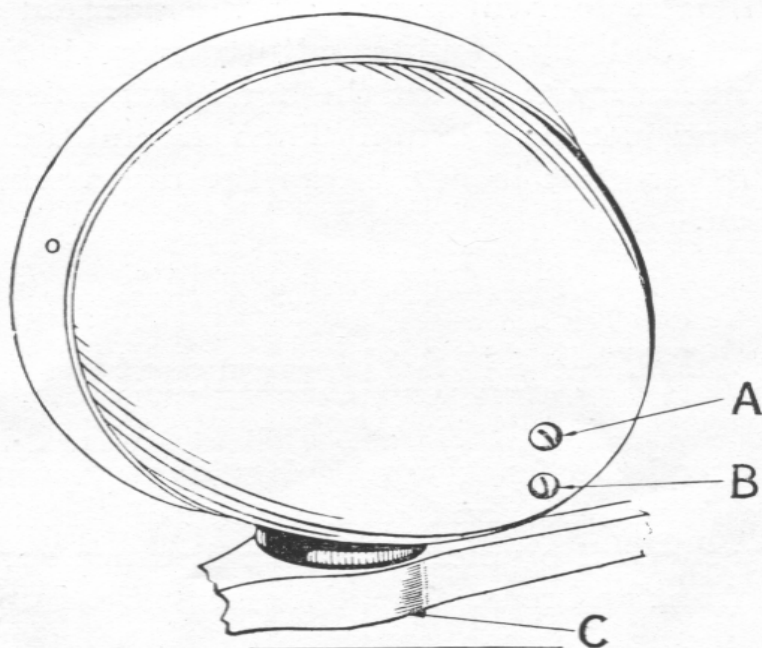
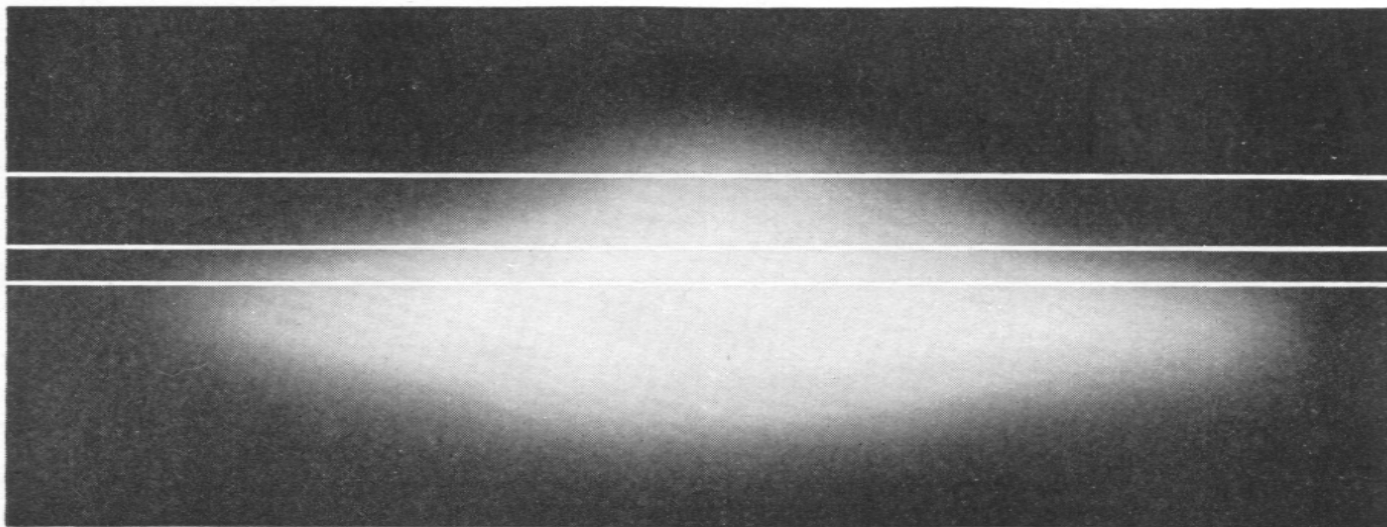
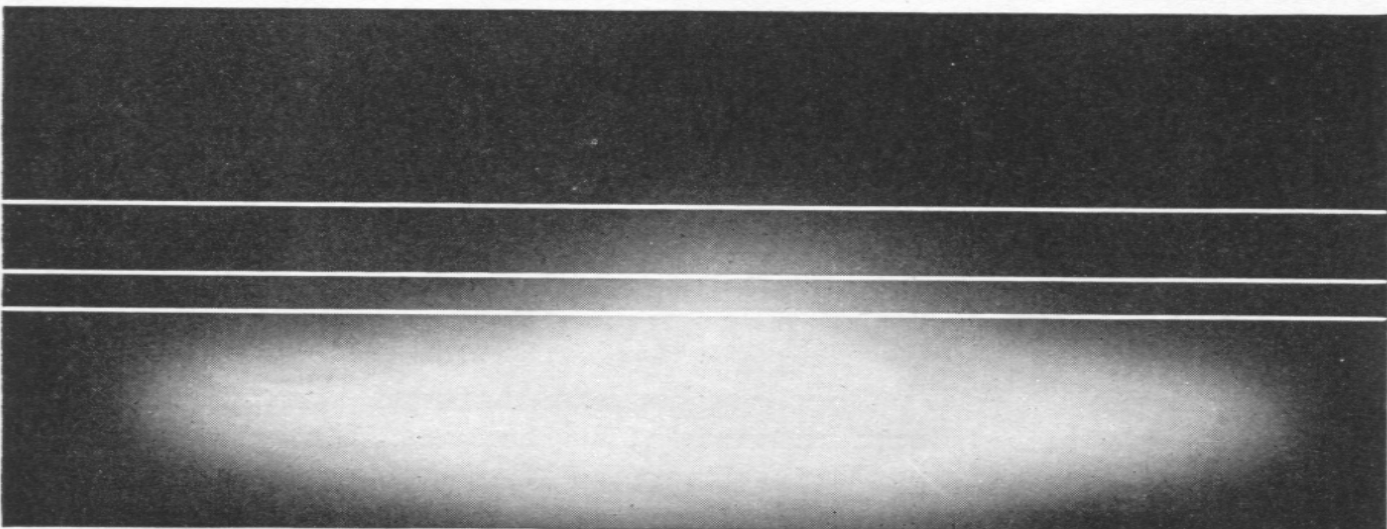

Fig. 1
Fig. 2. Single Upper Beam—Lens in Place
Fig. 3. Single Lower Beam—Lens in Place
**DESCRIPTION**—The Parabeam Headlamp is a complete lighting unit of the type which uses a double filament bulb of 21 c. p. for each filament. The two filaments are spaced  $\frac{1}{8}$ -inch apart, above and below the central axis of the bulb. Lighting the lower filament gives the upper or “driving” beam. (Fig. 2.) The upper filament produces the lower or “passing” beam (Fig. 3) for city driving or whenever the upper beam might cause annoyance to others. The lower beam is tilted downward about  $2\frac{1}{2}$  degrees from the upper position, or about 1 foot on a wall 25 feet from the lamp. The two lower white lines in Fig. 3 indicate the maximum and minimum tilt for the top of lower beam.
The headlamp consists of a carefully made outer housing and door, a special variable axis parabolic reflector to tilt and spread the light, and a ribbed or fluted lens designed solely for use with this reflector. In addition to the upper screw “A” (Fig. 1) at the rear for focusing the bulb, an adjustment is provided for raising or lowering the bulb in the reflector, to secure best results from different bulbs. This is done by the lower screw “B” (Fig. 1) at back of lamp, which turns a small eccentric, tilting the socket and bulb up or down in the slotted guide tube attached to the reflector.
*Third*—With one lamp covered to hide its light, set the lighting control switch at the upper or “driving” beam position and remove the door from the uncovered lamp. Turn the lower of the two screws “B” (Fig. 1) in the back of headlamp (vertical adjustment screw) to the right until the top of the light beam is as low as possible, then turn it to the left one-quarter turn or slightly more. The total adjustment is covered by a half turn of the screw. Turning screw to right raises the bulb in reflector and tends to lower the top of the “driving” beam, producing a flatter cut-off, and less tilt to the lower beam. Therefore, set the bulb so that the beam shown in Fig. 5 is obtained by proceeding as follows:
*Fourth*—Turn the large focus screw “A” (Fig. 1) in center of lamp slowly to left or right until a bright triangular spot like Fig. 5 is obtained. Try removing the bulb, turning it half way around to reverse the position of filaments, and replacing in the socket. This insures the best beam from the bare reflector, since the bulb filaments sometimes vary in length and position.
*Fifth*—Aim or point the lamp by loosening the nut at “C” (Fig. 1) on lower side of lamp mounting. The center of the beam should strike the vertical line on wall in front of this lamp, and the top of beam should touch line “A” when car is fully loaded. If car is empty, allow at least 4 inches between line “A” and top of light beam. Under no circumstances should any part of the bright beam rise above line “A.”
*Sixth*—Make sure that the lamp is firmly fastened in position when it is aimed correctly. Then repeat the foregoing operations with the other lamp. The two upper beams should be similar in shape and should strike the wall at the same height from the ground. Now turn the control switch to the lower or “passing” beam position and note whether the cut-off or top of the bright area on wall has dropped about 1 foot. If the amount of drop is considerably less than 1 foot, turn lower screw “B” (Fig. 1) (vertical adjustment) to left very slightly and try both upper and lower beams on the wall. When the upper beam from one lamp looks like Fig. 2 it is correctly adjusted and the lower beam will have the proper amount of drop or tilt.